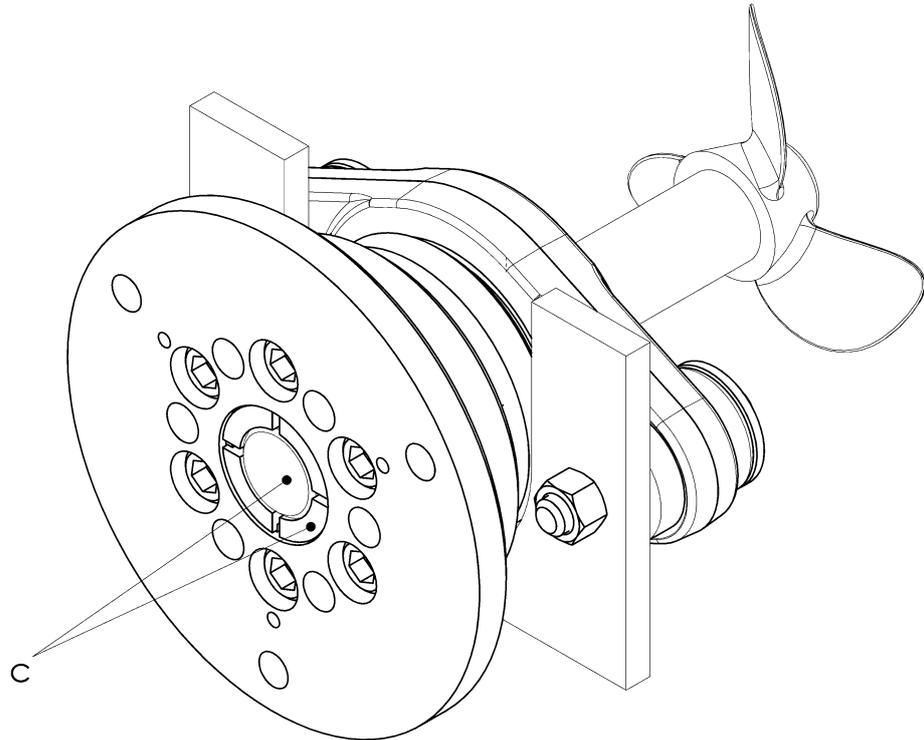

Fig. 6-6 Propeller shaft and bush are flush after mounting
- Check the position of the propeller shaft (B; Fig. 6-6).